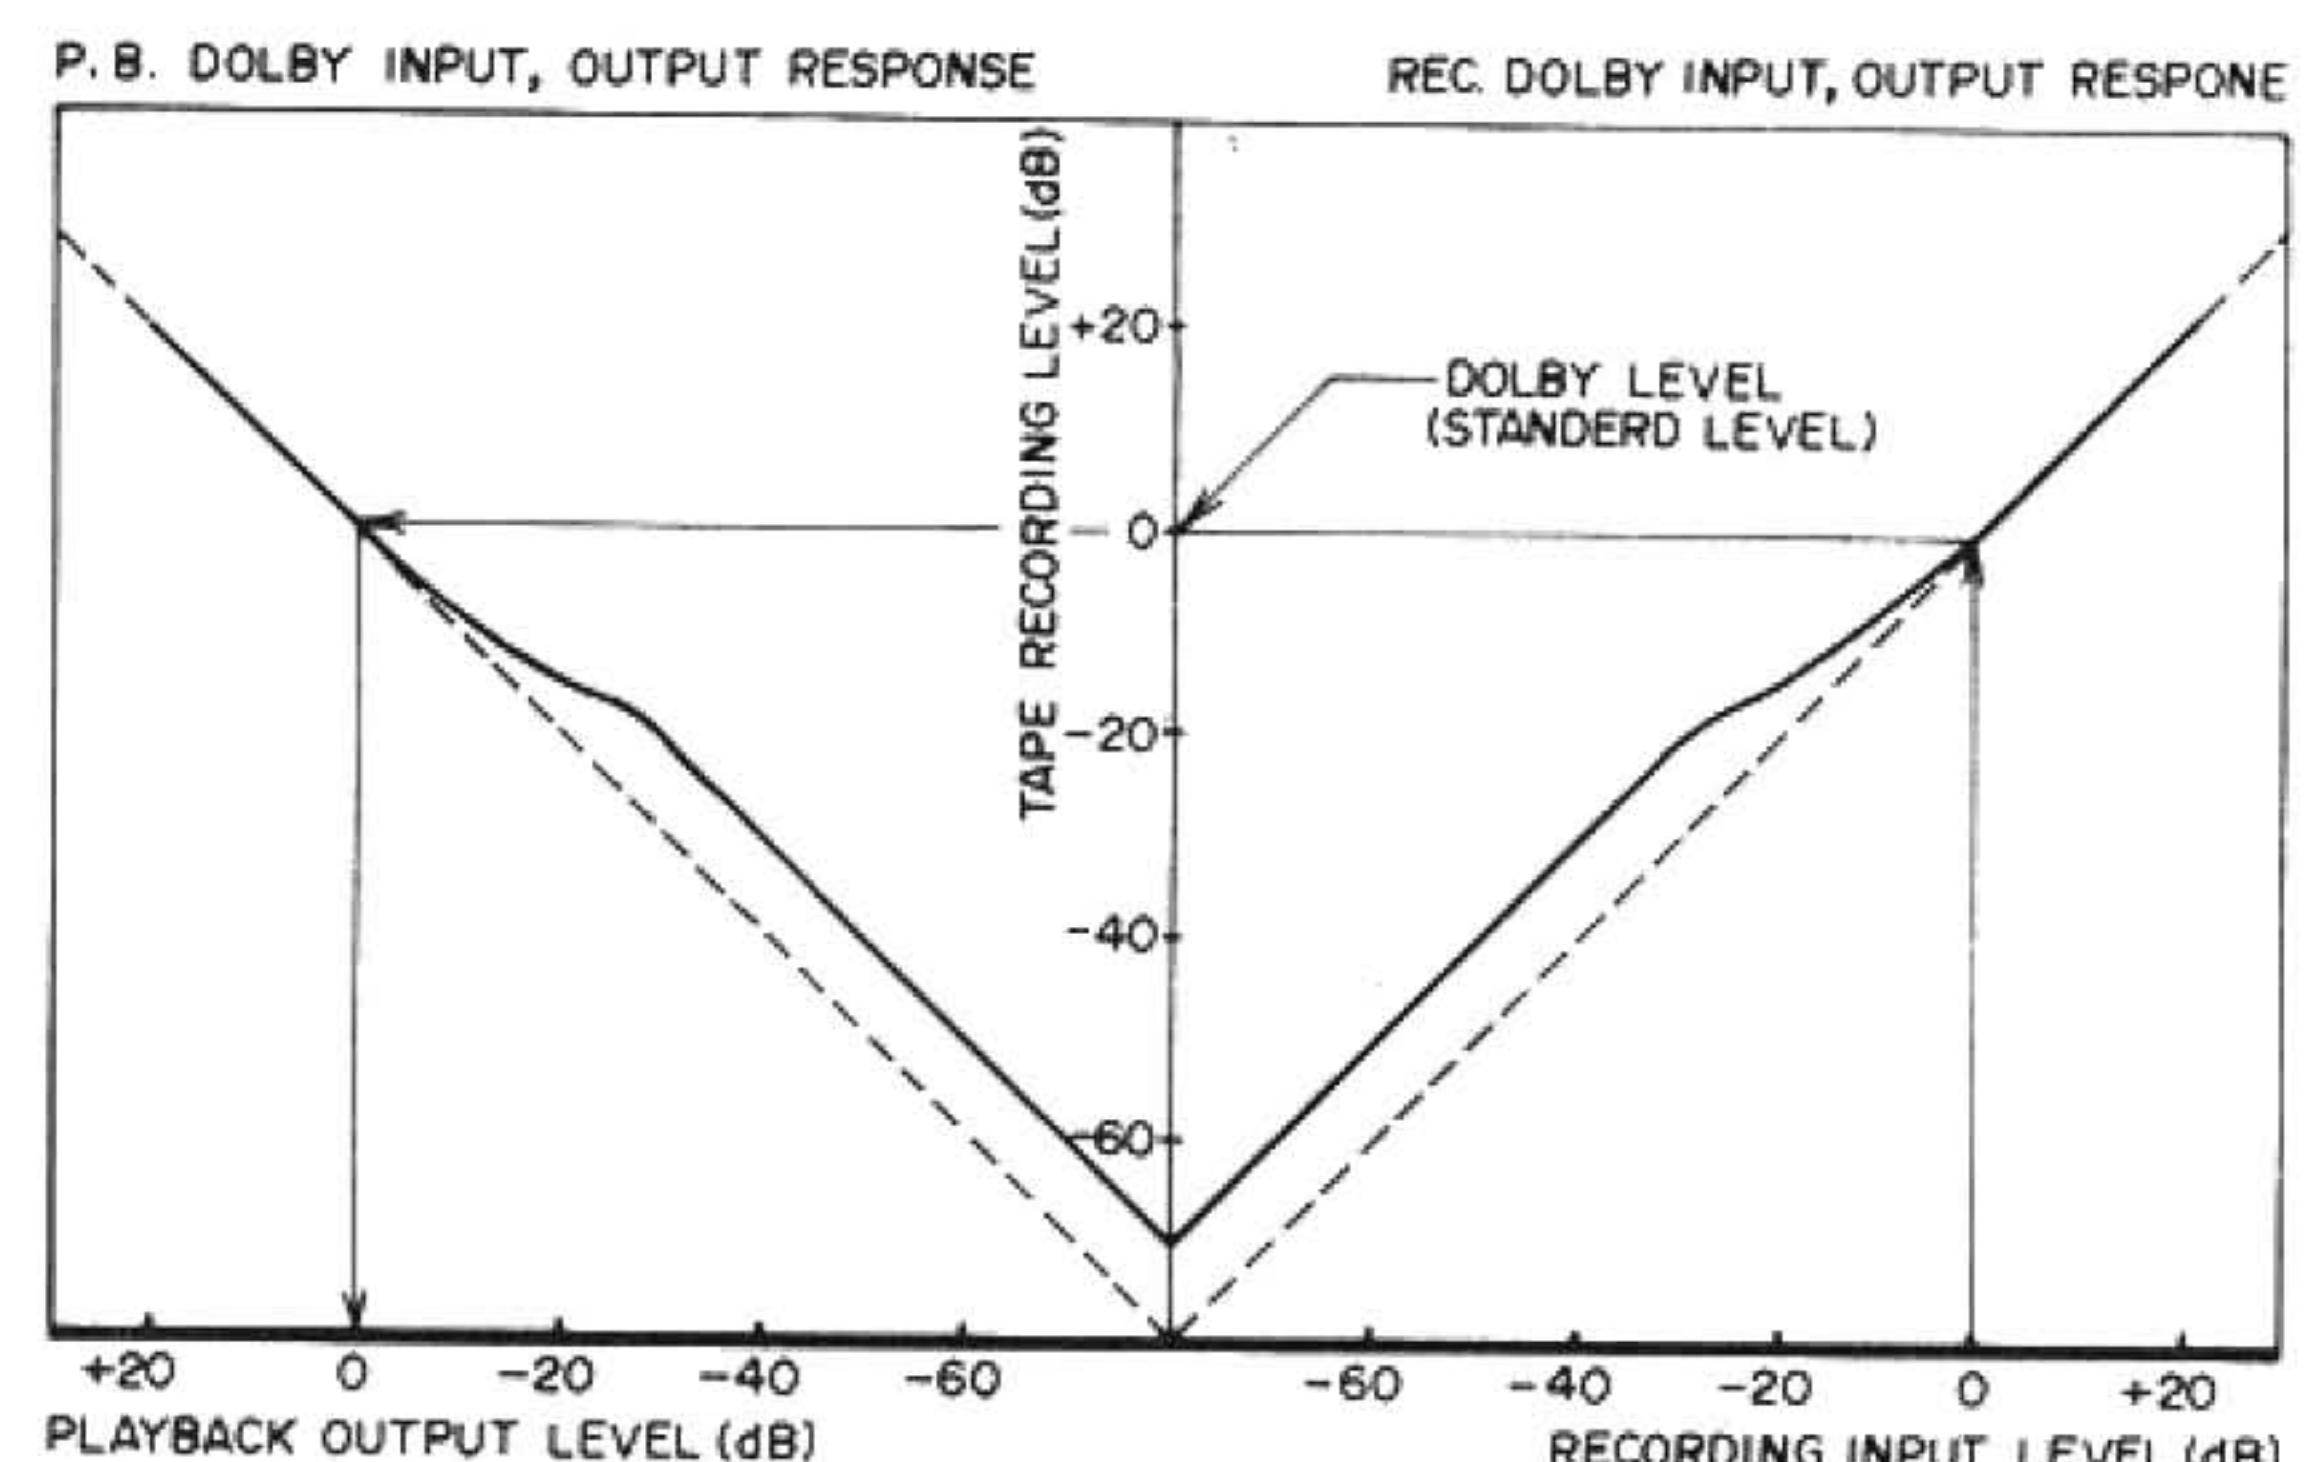

Fig. 47
In formula 3, Dolby recording circuit output signal e_0 is recorded at a 10 dB higher level in relation to a 30 dB lower input level than the Dolby level. (Refer to Fig. 47)
That is to say that with regards to signal over the Dolby level (Fig. 47), the signal supplied to the base of TR6 is greatly reduced and the situation develops wherein $e \gg me = e_2$. For this reason, formula 3 becomes:
Therefore, relative to the signal above the Dolby level, ratio of input and output becomes an equal 1:1. (Fig. 47)
2) Also TR7 output signal is changed by the characteristic of diodes D3 and D4 and is supplied to point b as e_2 in Fig. 47. This e_2 signal is added at point (b) as the reverse phase of signal e , and this signal is dolbyized to become output signal e_0 . Expressed by a formula, this becomes: